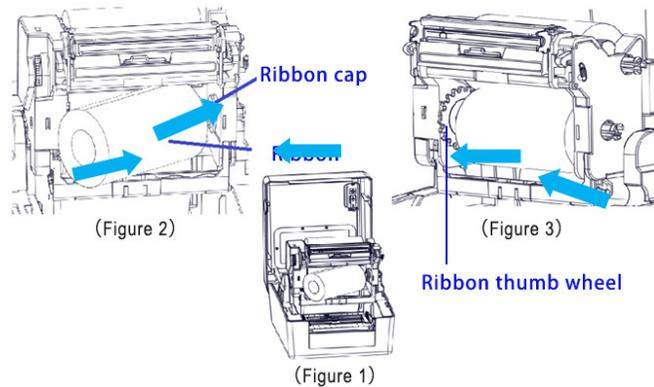

Figure 2.3.1
- a) When the inner diameter of ribbon shaft is 12.7 mm (1/2 inch), the operation method is as shown in Figure 2.3.1 (please pay attention to the installation direction). Firstly, turn the ribbon holder to the position shown in Figure 1, insert the ribbon into the ribbon cap in the direction shown in Figure 2, and then insert the other end of ribbon into the ribbon thumb wheel as shown in Figure 3, finally, pull the ribbon outward gently, and it means that the ribbon installation is complete when the operator feels the elastic recovery force (see Figure 2.3.1);